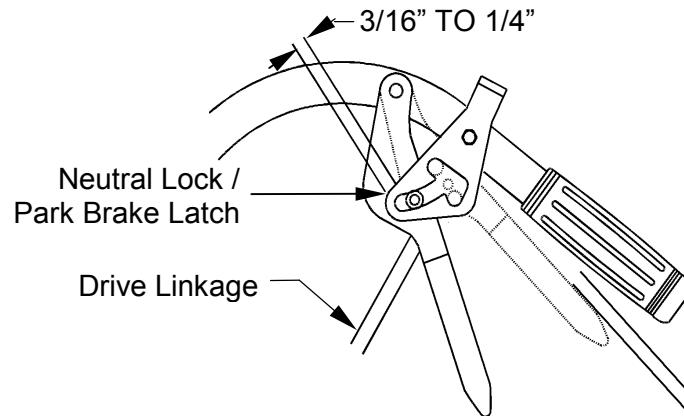

FIG. 11
- Adjust drive linkage length by threading into or out of the swivel until there is a 3/16" to 1/4" clearance between the linkage assembly and the bottom of the slot in the neutral lock/park brake latch (See Figure 11).